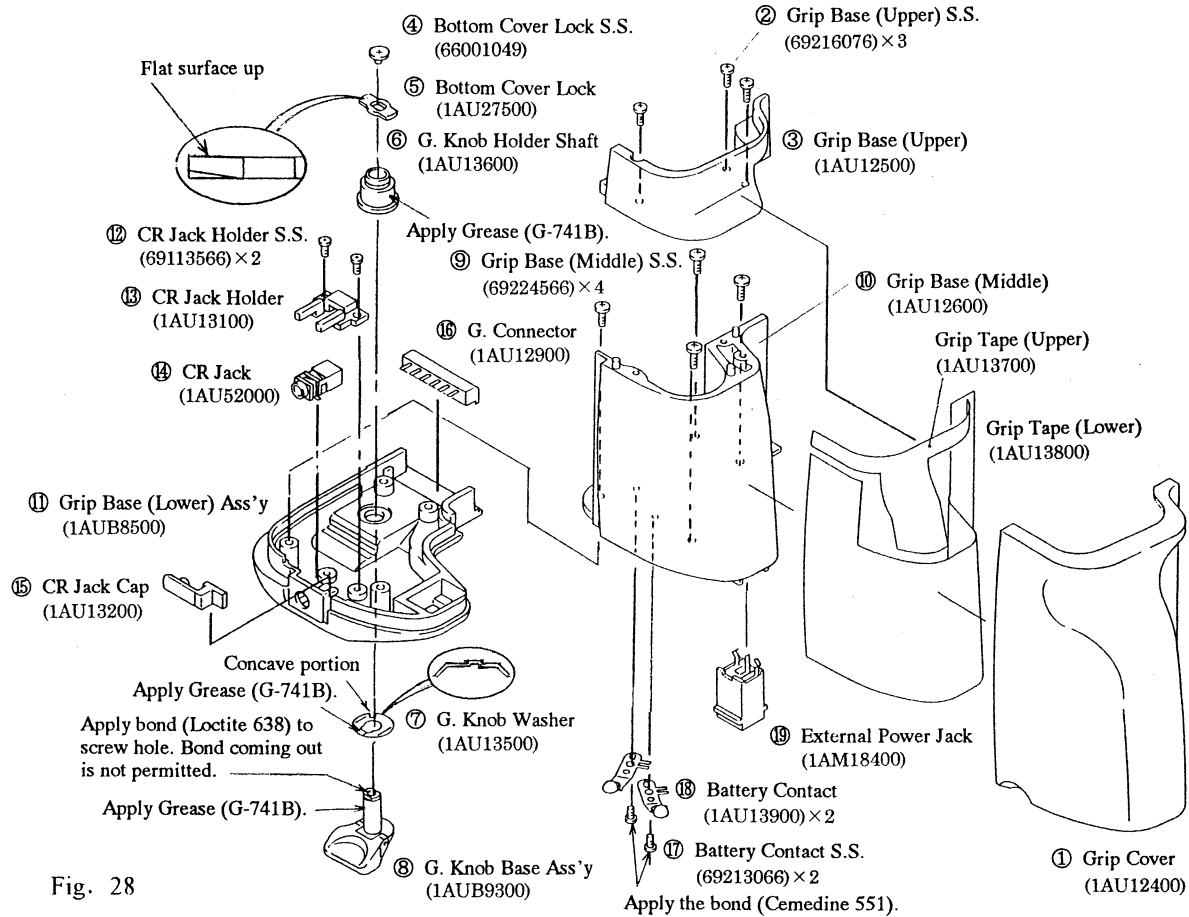

Fig. 28
- 1) Remove the parts in the numerical order of ① to ⑰ as shown in Fig. 28.
- Set the G. Knob Washer (1AU13500) in an orientation as shown in Fig. 28 with care not to confuse the top and bottom and fit the concave portion of the G. Knob Washer on the boss of the G. Knob Base Ass'y (1AUB 8300).
- Install the Bottom Cover Lock (1AF27500) with its flat surface up, as shown in Fig. 28.